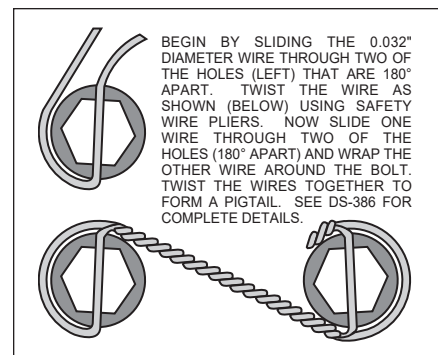

Figure 3. Safety Wire Diagram
•The flat spindle/caliper mounting bracket (1) should be installed first with clean, dry threads on the mounting bolts. Install the bracket on the back side of the spindle by sliding bolt (2) through the bracket (1) and into the upper hole of the spindle upright boss. Apply red *Loctite*® 271 to the threads and torque bolt (2) to 140 ft-lb. Slide bolt (3) through lower spindle “ear”, through the bracket (1), washer (4), and secure with locknut (5). Torque locknut (5) to 65 ft-lb. The bracket must tighten squarely against the side of the spindle body. Inspect for interference from casting irregularities, machining ridges, burrs, etc.
•With the larger I.D. side of the rotor (6) facing away from the hat (7), bolt rotor (6) to hat (7) through the backside of the rotor using bolts (9), and washers (8). Using an alternating sequence, apply red *Loctite*® 271 to the threads and torque bolts to 155 in-lb. For an added measure of security, the bolts may be safety wired using standard 0.032 inch diameter stainless steel safety wire as shown in Figure 3. Please refer to Wilwood’s data sheet DS-386 (available at www.wilwood.com/Pdf/DataSheets/ds386.pdf) for complete safety wire installation instructions.